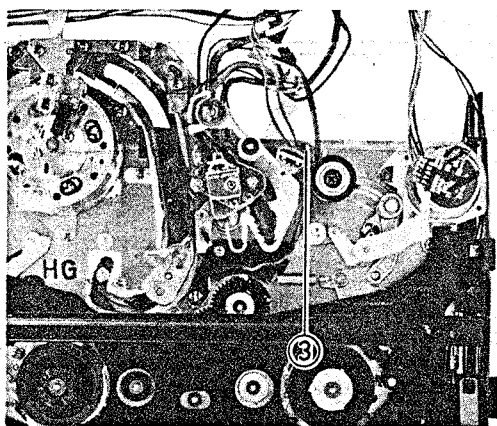

Fig. 2-70 Dew Sensor Removal
3. Remove one (1) screw holding the dew sensor. (See Fig. 2-70)